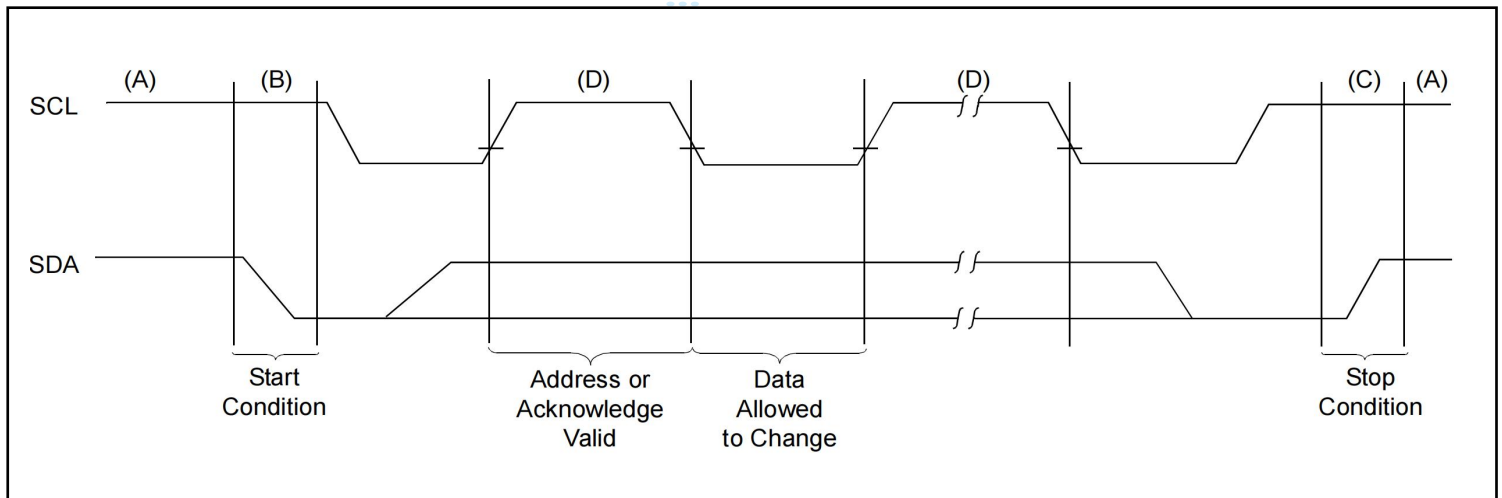

FIGURE 2: DATA TRANSFER SEQUENCE ON THE SERIAL BUS
- Accordingly, the following bus conditions have been defined (Figure 2).
Write Protection : The WP pin allows the user to write-protect the entire array (0000-1FFF) when the pin is tied to Vcc. If tied to Vss the write protection is disabled. The WP pin is sampled at the Stop bit for every Write command (Figure 2). Toggling the WP pin after the Stop bit will have no effect on the execution of the write cycle.